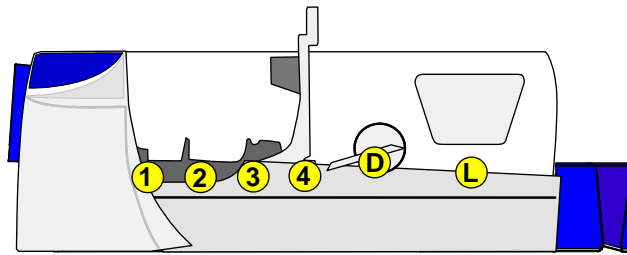

Figure 4-8: Roller locations in the card track
- b Place the cleaning pen on top of the first transport roller (location 1 in Figure 4-8).
- g Move the cleaning pen to location 2 (in Figure 4-8). Repeat steps c through f.
- h If the printer has a magnetic stripe module, move the cleaning pen to location 3 (in Figure 4-8). Repeat steps c through f.
- b Hold the end of the cleaning pen against the top of the lower exit roller (location 4 in Figure 4-8).
- i** You can also clean the rollers in the duplex or pass-through mechanism (location D in Figure 4-8), and in the laminator (location L in Figure 4-8). Turn the black duplex wheel to move rollers in the duplex or pass-through mechanism. Turn the laminator advance knob to turn the wheels in the laminator.